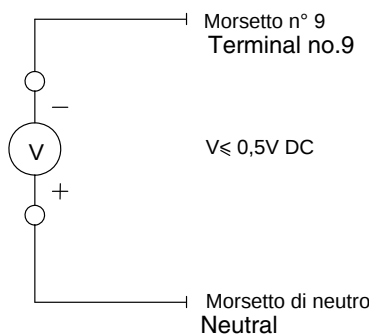

Fig. 17
- dismantle, examine and clean the combustion head (see next paragraph); reassembling the combustion head be careful to respect the measures in Fig. 17;